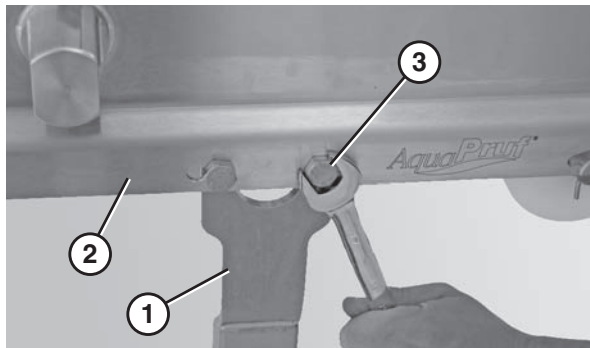

Figure 34
- Attach the non-quick release side of the stand (Figure 34, item 1) to the MOTOR SIDE of the conveyor (Figure 34, item 2) using two M10-1.5 x 12mm hex head cap screws (Figure 34, item 3).